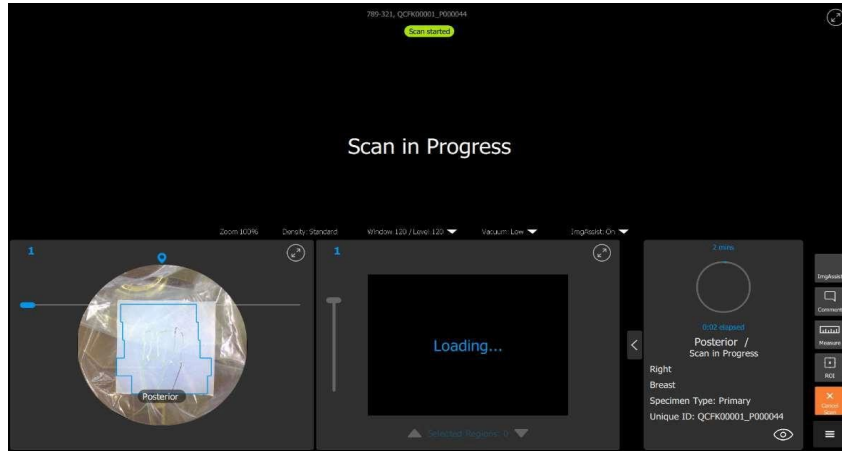

Figure 7: Scan in Progress and Progress Indicator
4. Scan in Progress Screen (see Figure 7)
During scanning, the Review Screen will display the words “Scan in Progress” and a progress indicator appears on the scan card (Figure 7). The progress indicator displays the estimated scan time and the elapsed time.